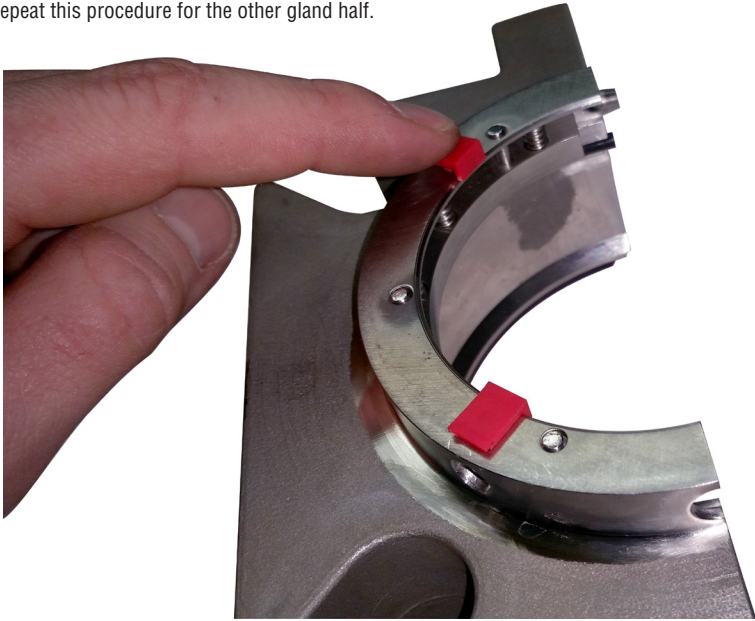

Figure 29
- 12.2 Position the centering devices at the gland locating holes and press their tabs into the locating holes. The locating holes are positioned 45 degrees from the split joints and are even with the bolt slots. See Figure 29.